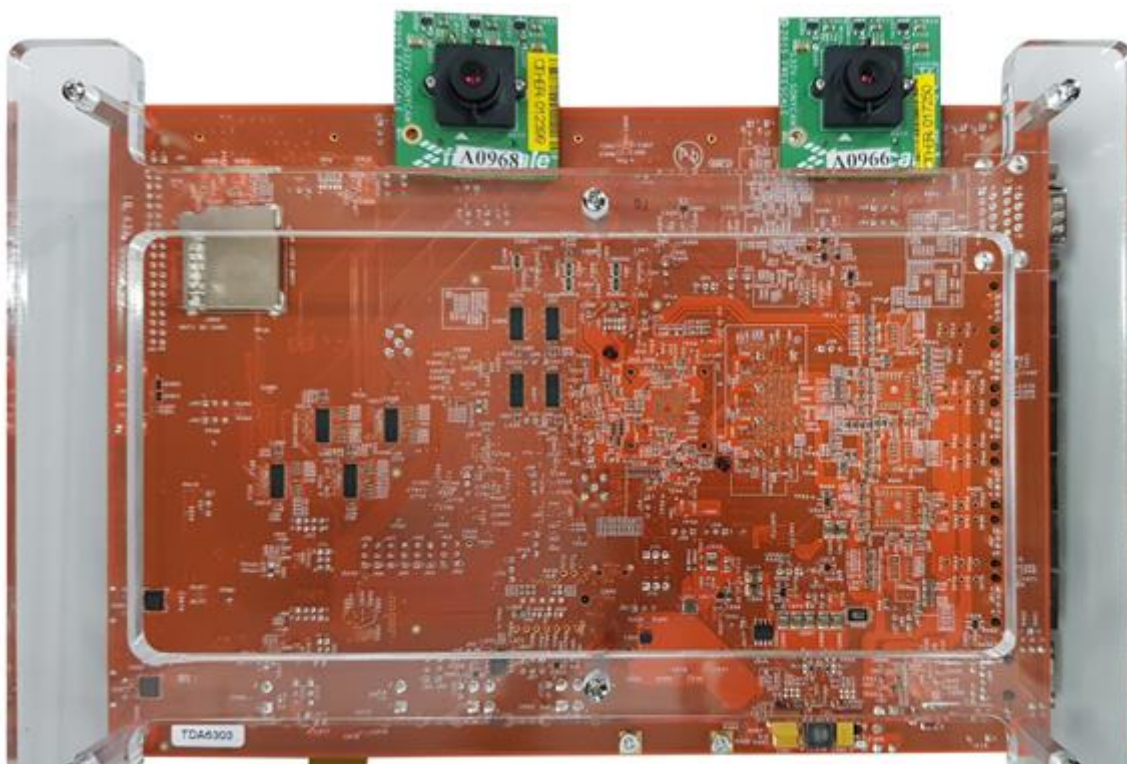

Figure 1 S32V234 EVB (front and back side)
On **Figure 1**, the S32V234 Evaluation board is displayed. Please note the positions of all necessary jumpers and vital parts on board:
4. (Optional) Connect the MCU Fan connectors (Figure 1) (Fan is not necessary when not using GPU on S32V234)
4. Before every run of the demo/application, the HW reset needs to be issued – press the top and bottom reset button (Figure 1) in this exact order.
11. Before every run of the demo/application, the HW reset needs to be issued – press the top and bottom reset button (Figure 1) in this exact order.